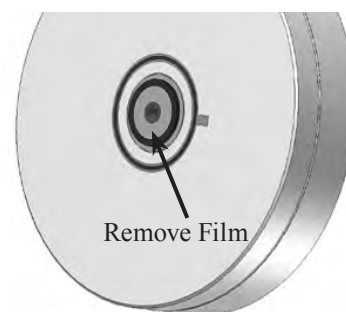

Figure 17
15. Remove the protective film from the bottom of the Turntable Vertical Bearing opening. Refer to figure 17.